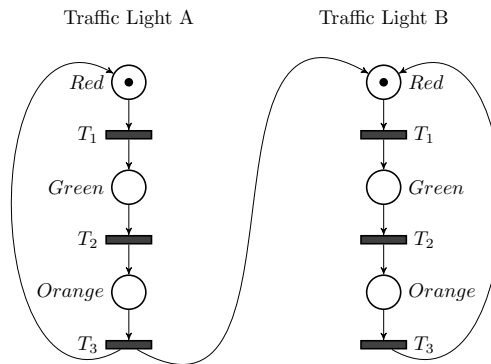

Figure 4 K.T.H's solution to the problem of the Traffic Control Agency.
- a. The first person T.C.A reached out to for help was Klas Theodor Hoppsan (K.T.H), who studied at an unknown university in Sweden. He came up with the solution shown in Fig. 4. Explain and illustrate whether or not his solution is: